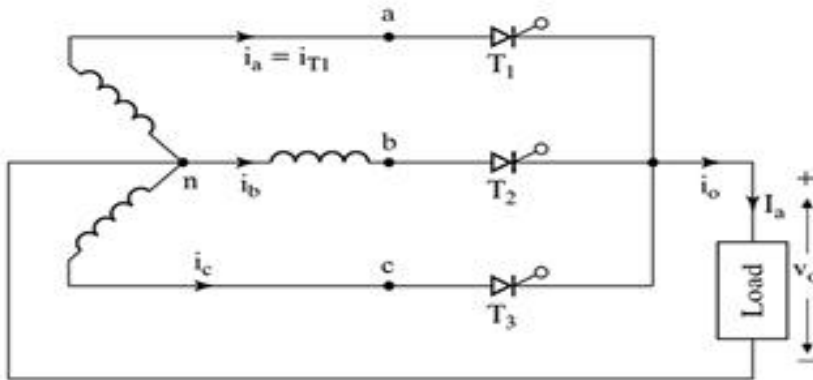

Fig.9.1 Three-phase Half wave controlled rectifier circuit
1. Make the circuit connection as per the circuit diagram shown in Fig. 9.1.
1. Make the circuit connection as per the circuit diagram shown in Fig 9.1.